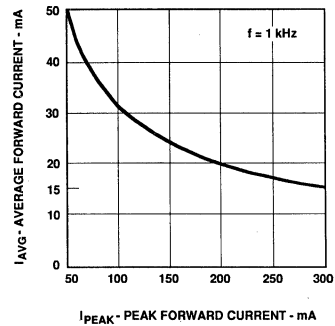

Figure 6. Maximum Average Current vs. Peak Forward Current. Refresh Rate = 1 kHz.
2. Refer to Figure 6 to establish pulsed operating conditions.